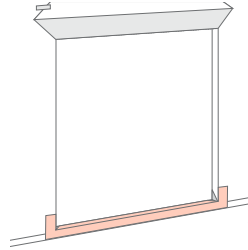
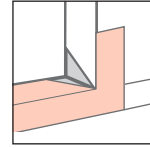

fig. 8
fig. 8a
- Cut a piece of self-adhering window flashing tape 4" tall and as long as the opening width and as far past the rough as is appropriate to your rough opening conditions. Apply to the face of the exterior wall so minimal of 1" extends above the opening and the amount determined to extend beyond each side of the opening (**fig. 8**). Cut along the corners of the rough opening and fold down onto the sill (**fig. 8a**).